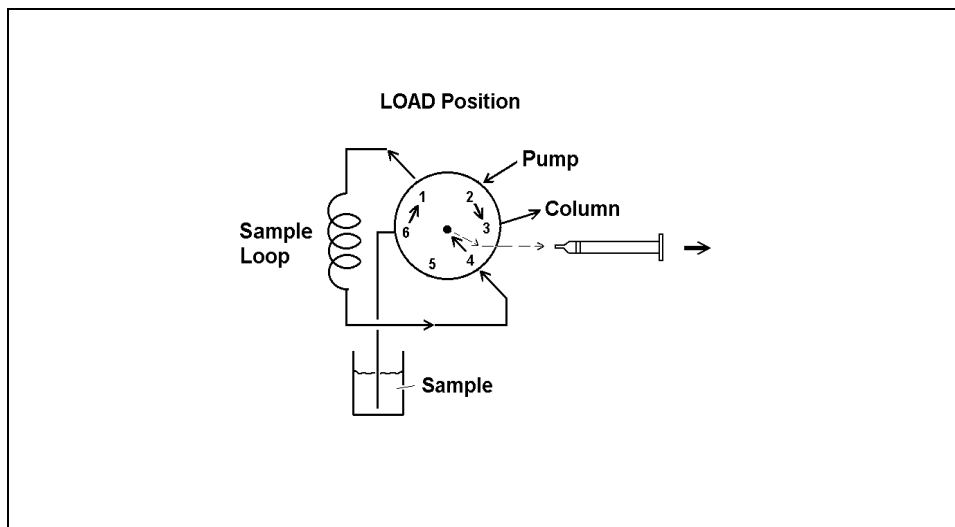

Figure 3-1. Drawing Sample through the Waste Line
- **Drawing sample through the waste line:** (Figure 3-1). Place the end of the waste line in port #6 into a container of sample. Insert the syringe into the needle port on the injection valve and draw sample into the syringe through the waste line. The sample loop is now filled with sample. Remove the waste line from the sample container. Leave the syringe in the needle port until the injection valve knob has been switched to **INJECT**.